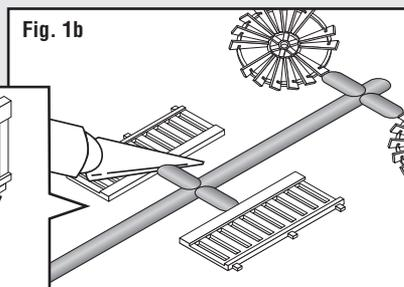

Fig. 1b
- Details can be left on sprues (recommended) or removed for priming and painting. Remove using a hobby knife (or flush cutting shears) and sand off parting lines (**Fig. 1b**). Details may be easier to paint on sprue. It also makes identifying them easier during assembly.